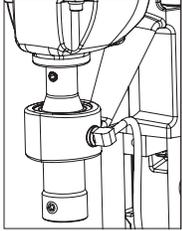

Figure 17
4. Visually inspect arbor, and support bracket for wear. **(Figure 17)**